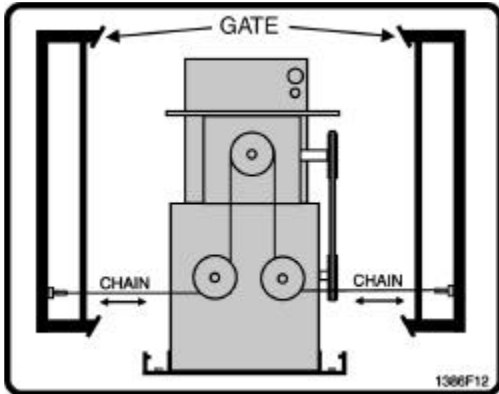
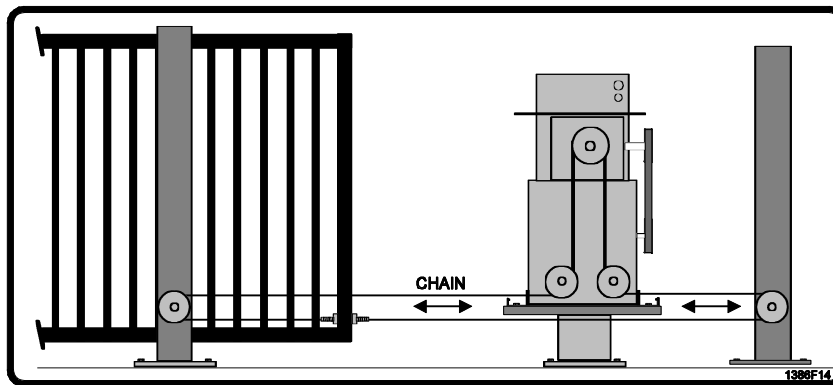

Figure 1. Front Drive.
Figure 3. Mid Drive.
4. The gate operator can provide front and rear drive configuration (Figures 1 and 2), and mid drive can be used if the operator is post mounted and clearance is provided under the operator for the chain anchor on the gate (Figure 3).